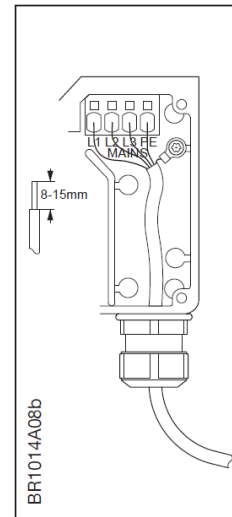

Fig. 3-12.1
- On 3-phase NI-DV units, connect the power cable to the terminals marked "L1", "L2", "L3" and "PE" (see fig. 3-12.1).